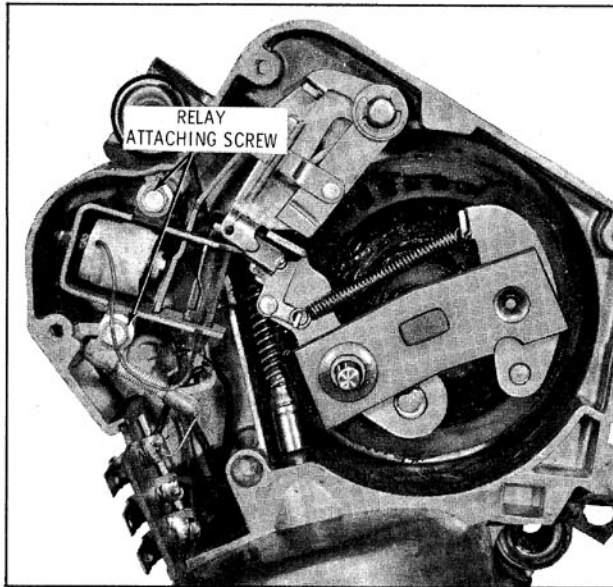

Fig. 13-139 Relay Control and Drive Gear Mechanism
The gear box is divided into two areas; the relay control and latching mechanism and the drive gear mechanism. (Fig. 13-139)
2. Remove the two screws that secure the relay control assembly. (Fig. 13-139)